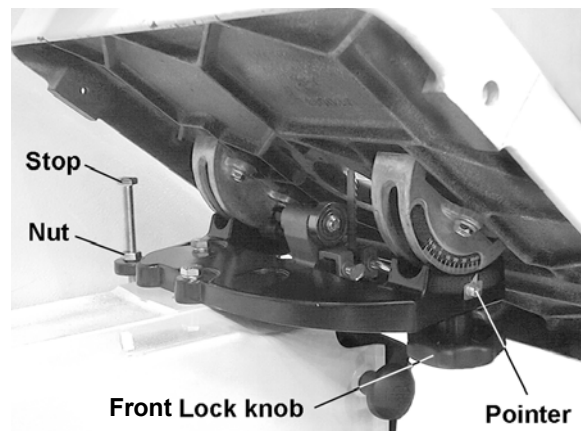

Figure 14
1. Loosen the front and rear lock knobs (Figure 14).
3. Tighten two lock knobs (Figure 14).
Note: Table stop (Figure 14) must be adjusted downward to allow the table tilt to the left.
2. Loosen lock knobs (Figure 14) and tilt table left until it rests against the table stop.
5. Loosen jam nut and turn table stop (Figure 14) left or right to raise or lower the stop. Tighten jam nut to hold table stop in place.